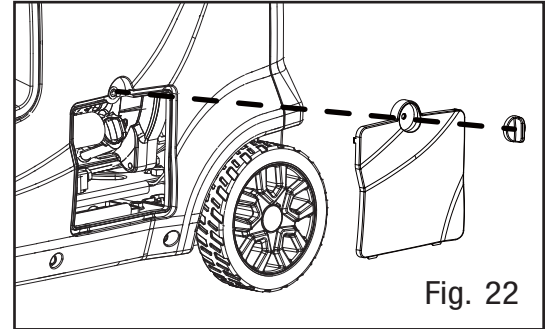

Fig. 22
2. Unscrew the oil access cover knob, and remove the cover from the side panel (Fig. 22).